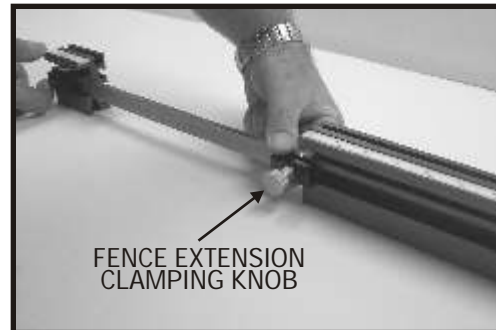

FIG. 3
3. Assemble the fence extension to the main fence by sliding the extension bar into the center track in the back side of the main fence extrusion. Tighten the brass fence extension clamping knob to secure the extension to the main fence. (Fig. 3).